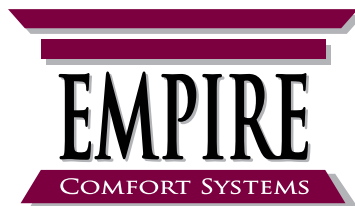

**Figure 22**
6. Install thermo-disc by snapping into bracket under the burner assembly. **See Figure 22.**